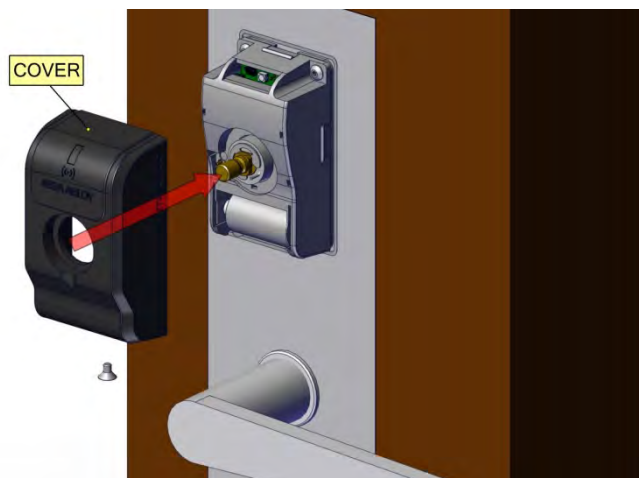
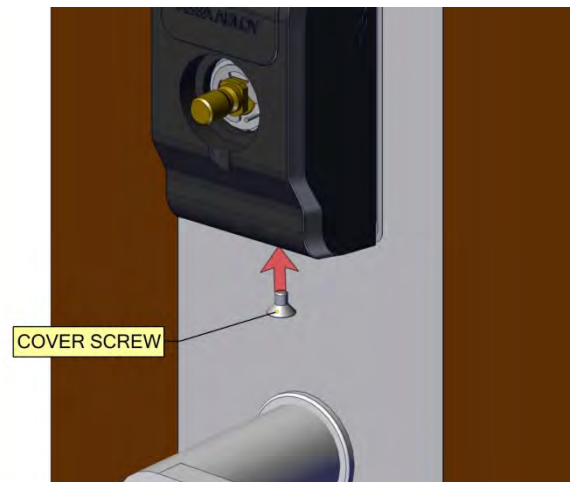

Fig. 16
Fig. 17
**Step 7:** Install cover assembly (Fig. 16) and cover screw (Fig. 17).